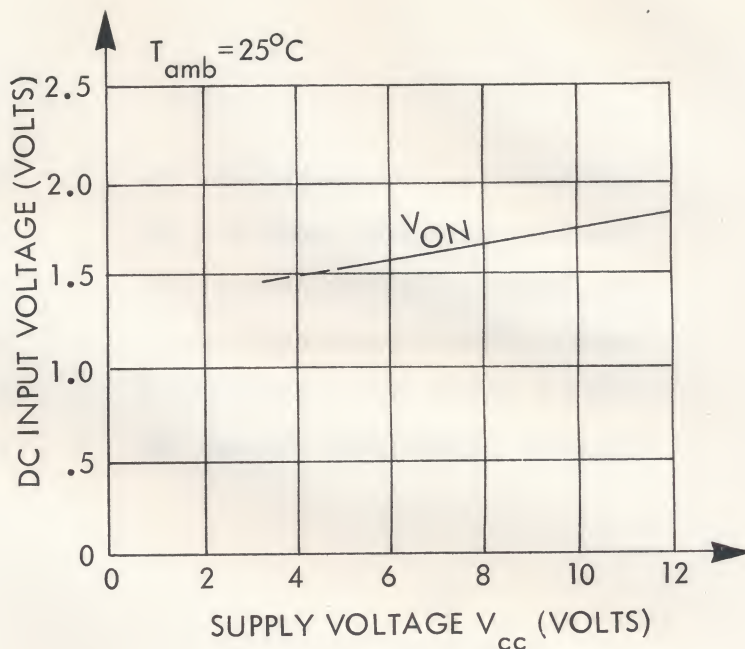
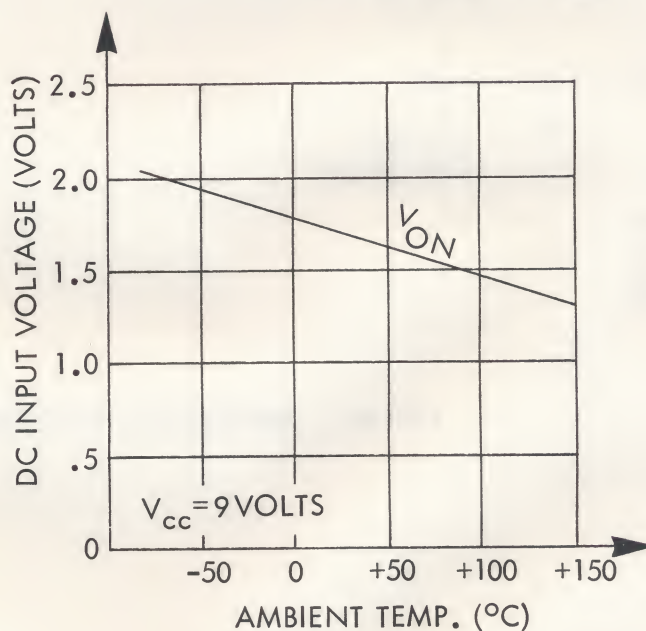

FIGURE 5. V_{ON} VS. V_{cc}
FIGURE 6. V_{ON} VS. AMBIENT TEMP.
Typical triggering input voltage level (DC) vs. supply voltage (with pin #10 grounded) is shown in Figure 5. Figure 6 shows the variation of the triggering voltage with ambient temp. As can be seen from Fig. 6, the temperature coefficient of the triggering voltage is negative and amounts to approximately $-3 \text{ mV}/^{\circ}\text{C}$. A suitable temperature compensating circuit (e.g., thermistor-resistor type) should be connected to the base of the input transistor Q1 (pin #2) when a smaller temperature coefficient is required.
In applications where triggering of the circuit is required at input voltage levels different from the inherent values shown in Figures 5 and 6, the bias pin